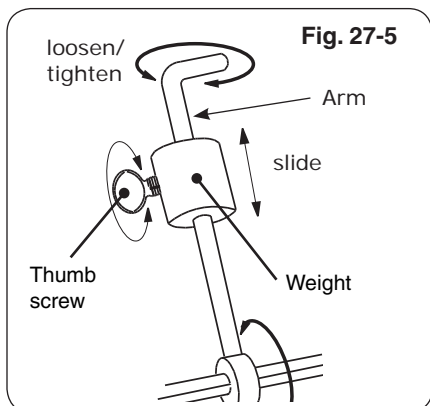
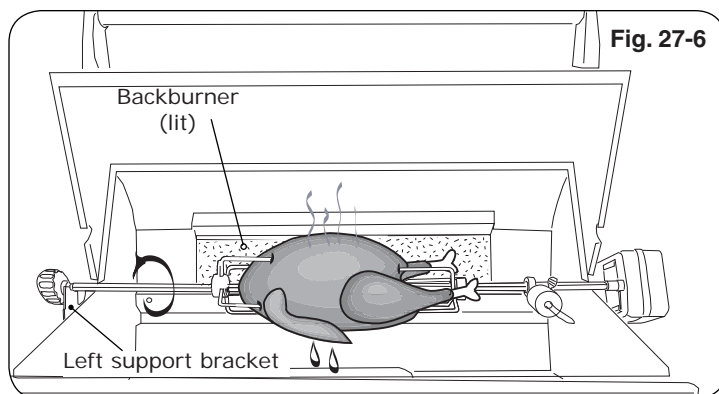

Fig. 27-5
Fig. 27-6
7. Slide the counterbalance weight up or down the arm until the rod rotates most evenly then tighten thumb screw (Fig. 27-5 and Fig. 27-6).